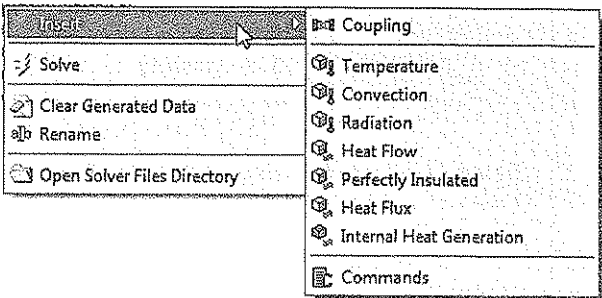
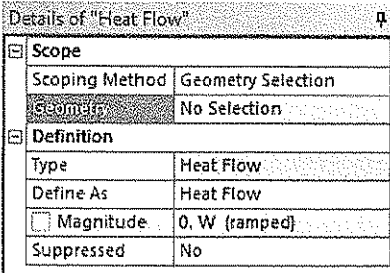

Figure 11-52 The shortcut menu displayed on right-clicking on the Steady-State Thermal node in the Tree Outline
Figure 11-53 The Details of “Heat Flow” window
7. Right-click on the **Steady-State Thermal** node in the Tree Outline and then choose **Insert > Heat Flow** from the shortcut menu displayed, refer to Figure 11-52; **Heat Flow** is added under the **Steady-State Thermal** node in the Tree Outline. Also, the **Details of “Heat Flow”** window is displayed, as shown in Figure 11-53.